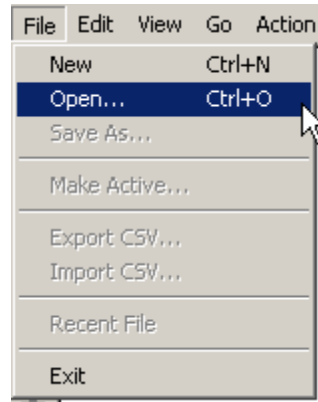

Figure 1.28. Opening the Existing Microsoft Access Database
1. In the Multimedia Configurator, select **Open** from the **File** menu, as shown in **Figure 1.28**.